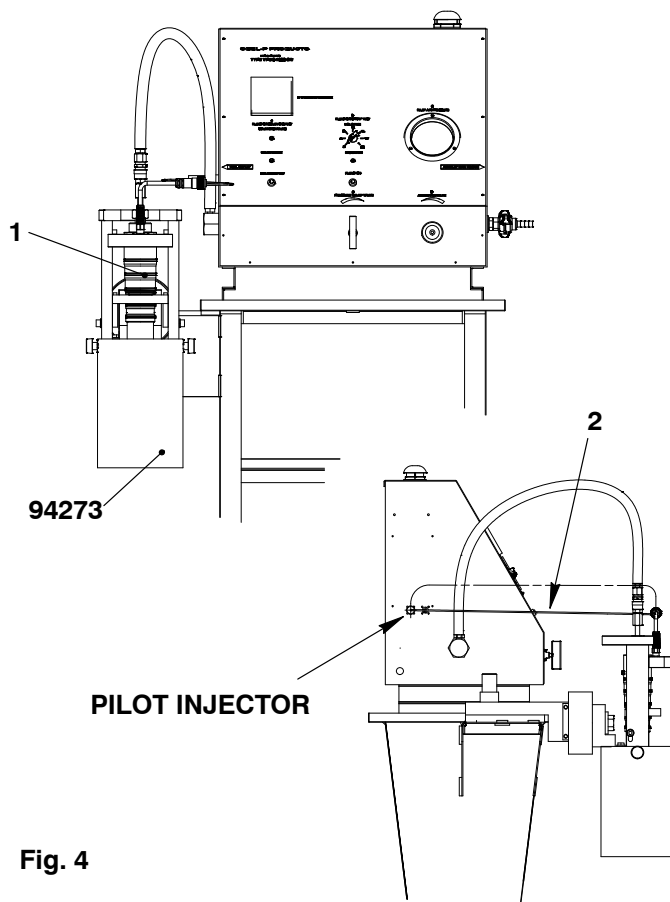

Fig. 4
- 8) Connect the injector cable (2, Fig. 4) to the socket for the pilot injector.